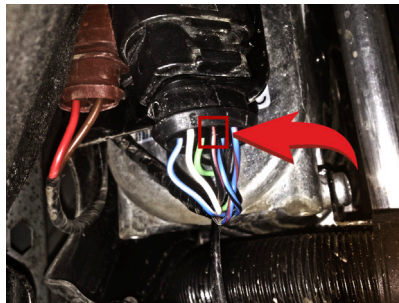

Figure 9
1. Connect red/black wire in the black connector of the heater (pin #3) to the ground through 70-100 Ohm\2.5 W resistor (figure 9)